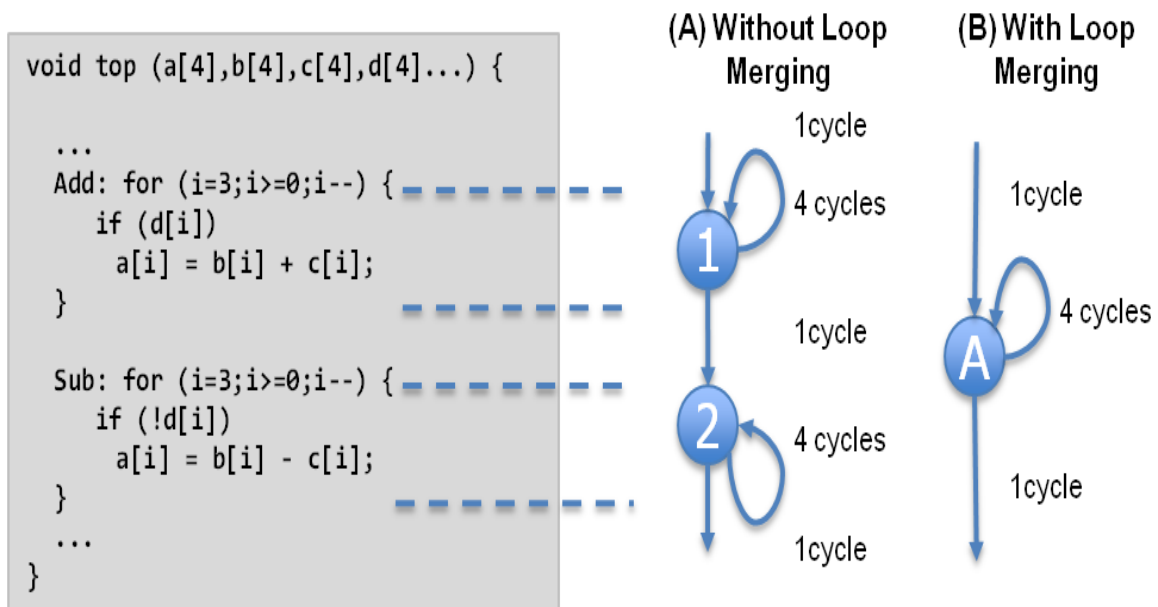

Figure 2-64: Loop Merging
Figure 2-64 shows a simple example where a seemingly intuitive coding style has a negative impact on the performance of the RTL design.
Figure 2-64(A) shows how by default, each rolled loop in the design creates at least one (but perhaps more, depending on the number of operations to be performed) state in the
High-Level Synthesis provides a feature to automatically merge loops. Using the directives tab in the GUI to add a MERGE directive to the function (or a region which contains both loops) would instruct High-Level Synthesis to merge the loops and create a control structure similar to that shown in Figure 2-64\(B\) which requires only 6 clocks to complete.